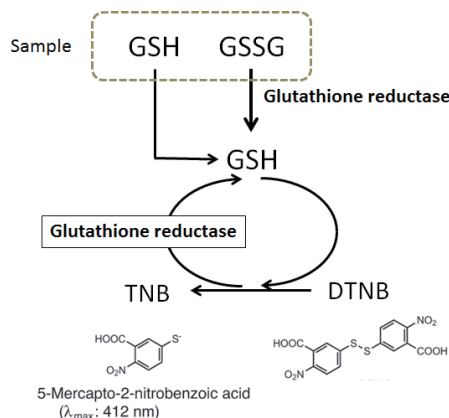

Fig. 1. Principle of Total Glutathione Quantification Kit
Glutathione (GSH) is the most abundant thiol(SH) compound in animal tissues, plant tissues, bacteria and yeast. GSH plays many different roles such as protection against reactive oxygen species and maintenance of protein SH groups. During these reactions, GSH is converted into glutathione disulfide (GSSG: oxidized form of GSH). Since GSSG is enzymatically reduced by glutathione reductase, GSH is the dominant form in organisms. DTNB (5,5'-Dithiobis(2-nitrobenzoic acid)) and glutathione (GSH) react to generate 5-mercapto-2-nitrobenzoic acid and glutathione disulfide (GSSG). Since 5-mercapto-2-nitrobenzoic acid is a yellow colored product, GSH concentration in a sample solution can be determined by the measurement at 412 nm absorbance. GSH is generated from GSSG by glutathione reductase, and reacts with DTNB again to produce 5-mercapto-2-nitrobenzoic acid. Therefore, this recycling reaction improves the sensitivity of total glutathione detection (Fig. 1).